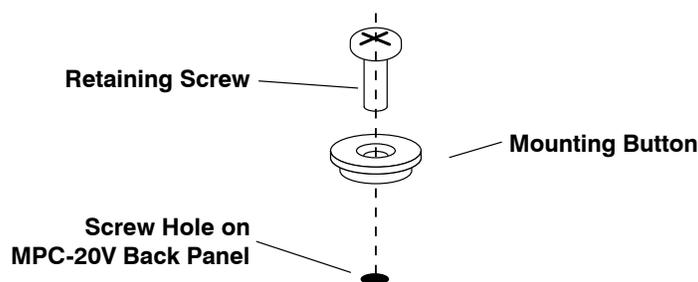

Figure E.3: Attaching Mounting Buttons to MPC-20V (Vertical) Units
- a) Insert a retaining screw into each Mounting Button with the top of the screw aligned with the large end of the Mounting Button, as shown in Figure E.3.